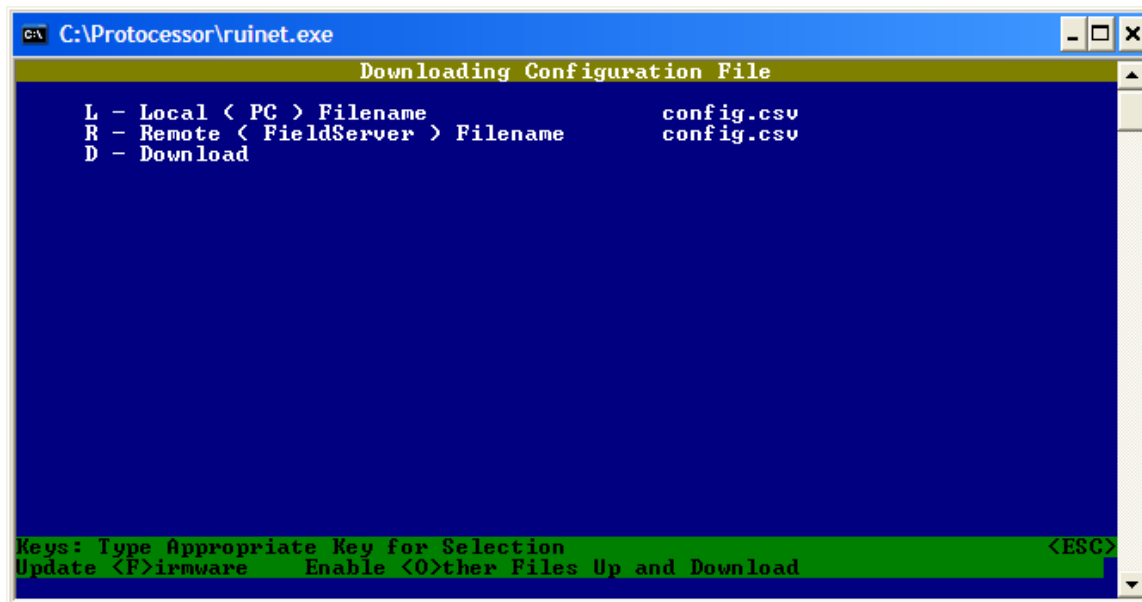

Figure 9 - RUINET Download Screen
- 5) Back in RUINET, press ‘Escape’ to return to the Main Menu. Press ‘D’ to choose (D)ownload Configuration. Press ‘D’ again to begin the download (see Figure 9). This downloads the updated configuration file (*config.csv*) from the computer to the bridge. When the download is complete, press ‘escape’ twice to return to the Main Menu.